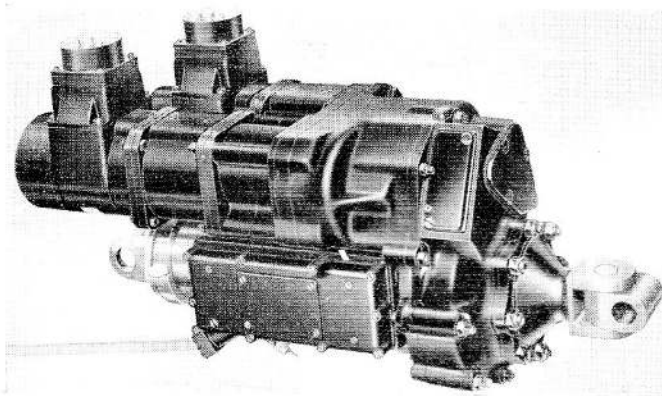

Fig. 1. General view of actuator, Type AE4022, Mk. 1
1. The linear actuator, Type AE4022, Mk. 1 (fig. 1), is similar to the Type 271 actuator and has been designed to provide variation in the angle of incidence of the tailplane under all conditions of flight. It is a two speed actuator; at high speed a working load of up to 8000 lb can be handled, and at low speed this load increases to a maximum of 16000 lb. Acting as a strut in the air frame, it can withstand loads of up to 27000 lb both in tension and compression.